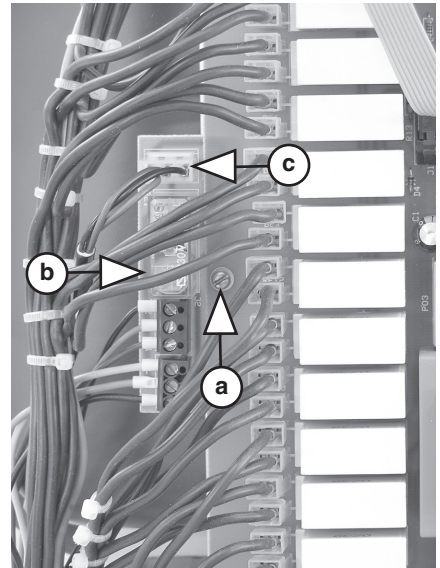

fig. 2
10. Release and partially unscrew the boiler control board safety screw (Fig. 2, position a).
11. Insert the control board of the actuator-controlled 3-way valve (Fig. 2, position b), and with the safety screw fasten it to the boiler main control board.
16. Insert the other end of the cable with the smaller connector to one of the unused cable glands from underneath the boiler (you must select a cable gland), and connect it to the newly installed control board of the actuator-controlled 3-way valve. (Fig. 2, position c).